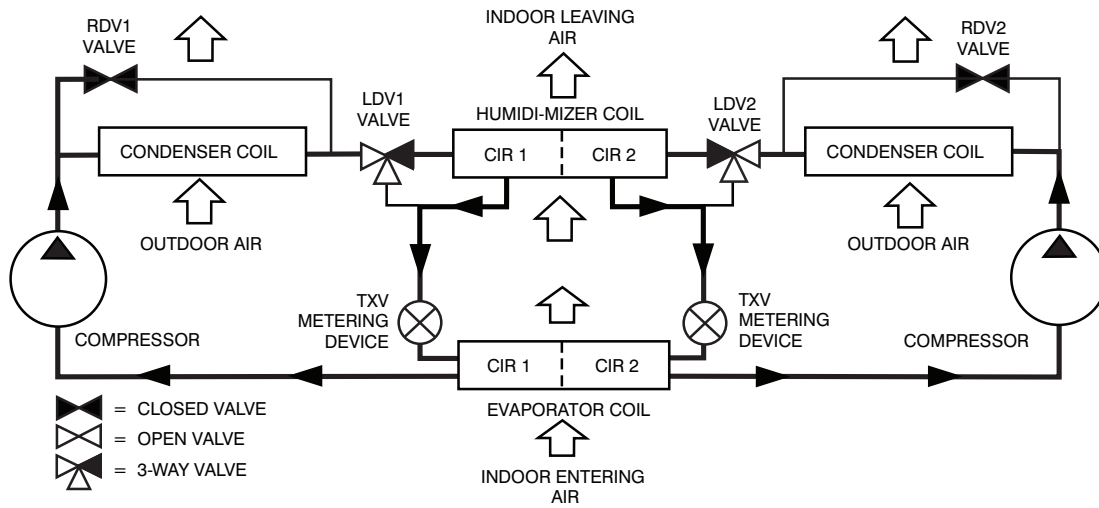

Fig. 77 - Normal Cooling Mode (Sizes 16: Type 3) - Humidi-MiZer® System with Dual Stage Cooling
Normal Cooling Mode: When there is only a cooling demand (thermostat Y1 alone or with Y2), one or both circuits will operate in normal Cooling Mode. Both solenoid valves in both circuits are de-energized. The LDV1 and LDV2 valves are 3-way valves with a Normally Open (NO) port and a Normally Closed (NC) port. In the Cooling Mode, the liquid flows out of the Normally Open (NO) port and into the TXVs on the evaporator coil. The RDV1 and RDV2 valves are Normally Closed (NC) and remain closed during the Cooling Mode. See Fig. 77.